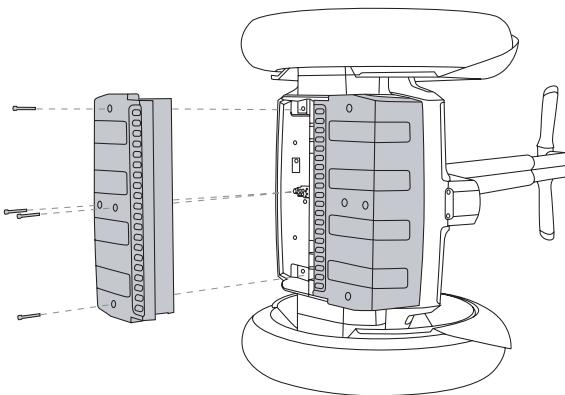

Figure 36. Reattaching the Batteries
2. Reseat one of the Batteries on the Powerbase with curved edge facing out, as shown in **Figure 36**.